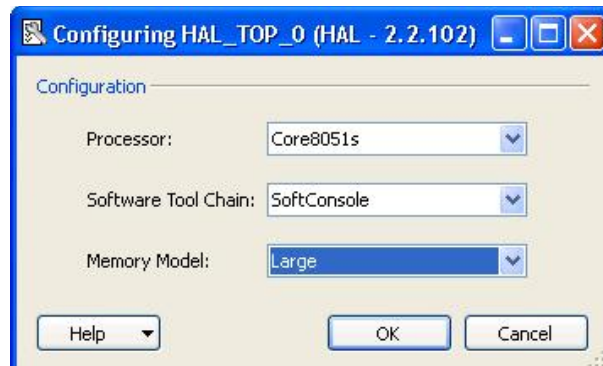

Figure 14 Configure HAL
4. Configure the HAL, as shown in Figure 14. The hardware abstraction layer (HAL) is used by the drivers to access the hardware. It also allows the control of interrupts. The HAL is required when using bare metal drivers as part of the application.